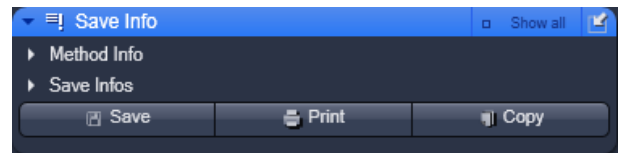

Fig. 75 Save Info panel
- Click on the **Save Info** tab to open the **Save Info** panel. (Fig. 75). Click again to close the panel.